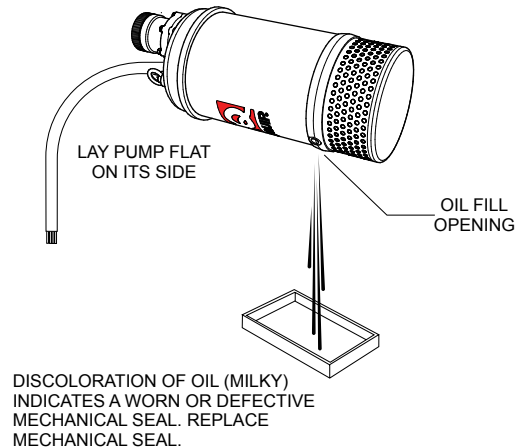

Figure 17. Lubrication Oil Inspection
1. Block the oil fill opening with a finger and roll pump to one side to drain (Figure 17) oil into a small transparent container.